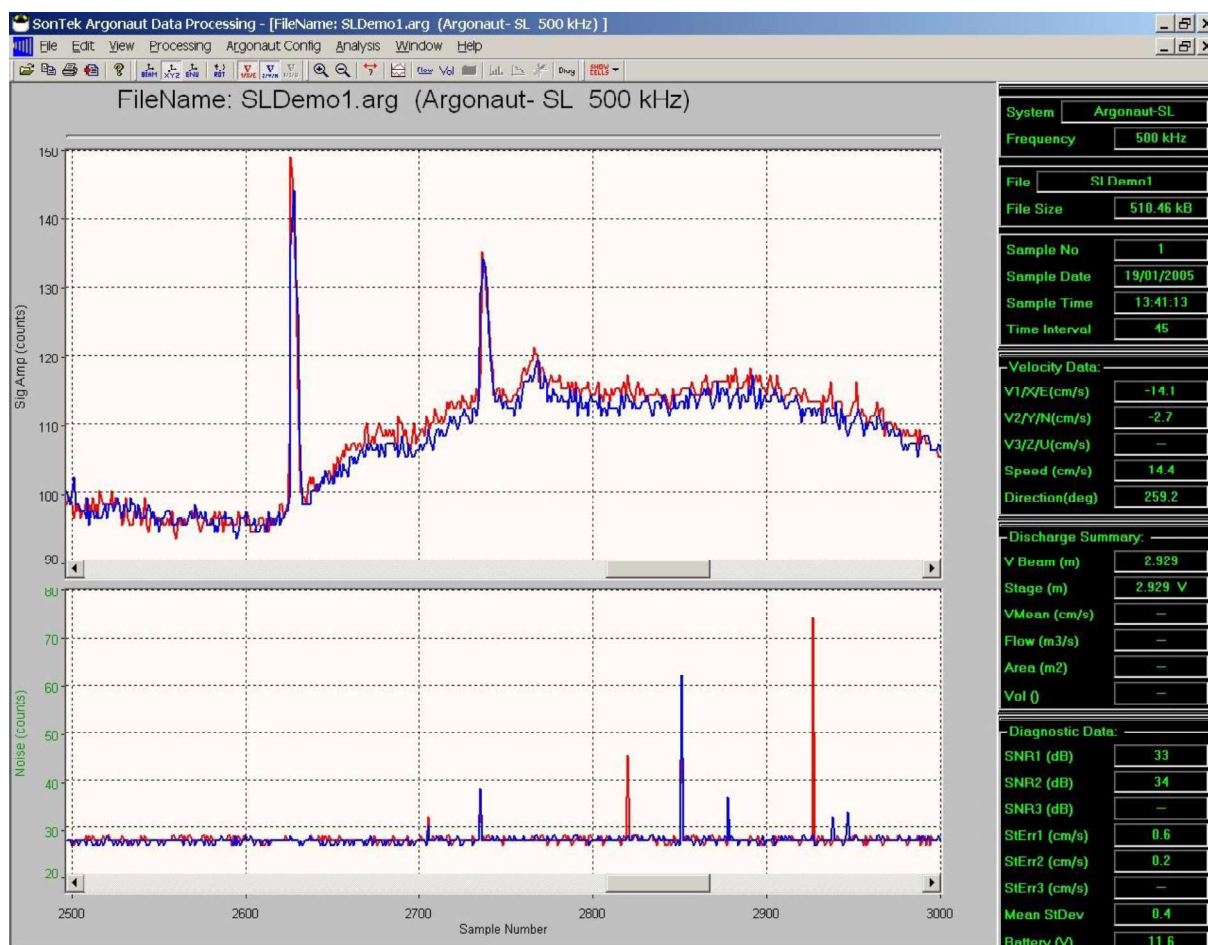

Figure 6-5. Sample Data File 1 (SLDemo1.arg) – Signal Strength and Noise
Figure 6-5 shows plots of signal strength (top graph) and noise level (bottom graph) for a subset of the total data file (samples 2500 to 3000).
- There are several spikes in noise level (some in Beam 1, some in Beam 2) between samples 2700 and 2950 in **Figure 6-5**.